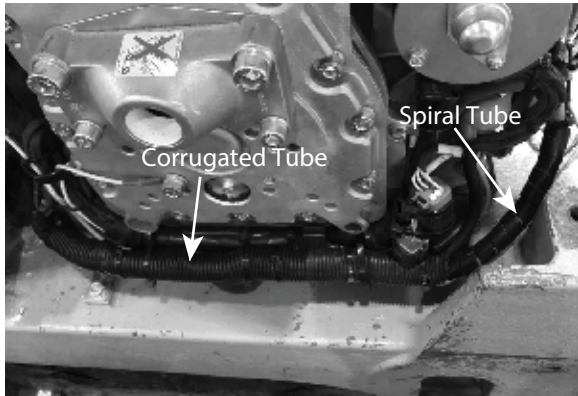

Figure 40. Corrugated and Spiral Tube Removal
6. Cut and discard the cable ties securing the existing corrugated tube and spiral tube. Then, remove them and set them aside. See Figure 40.